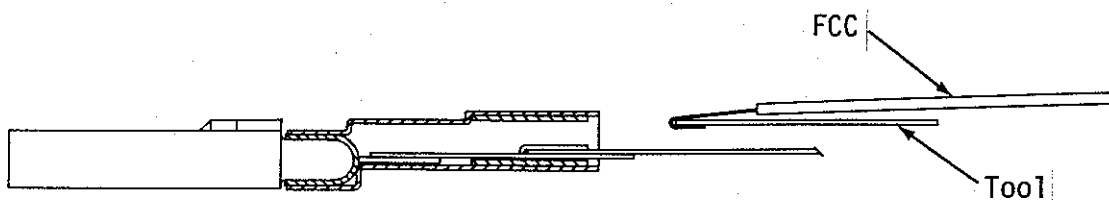

Figure 9. Use of Cable Insertion Tool to Aid FCC Insertion
- * The CE-1401700 cable insertion tool can be used to aid in cable insertion (Figure 9).